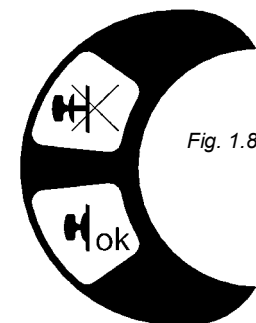

Fig. 1.8.2
- check that the white seal on the knob for unlocking the outlet adheres to mincer casing (Fig. 1.8.2).